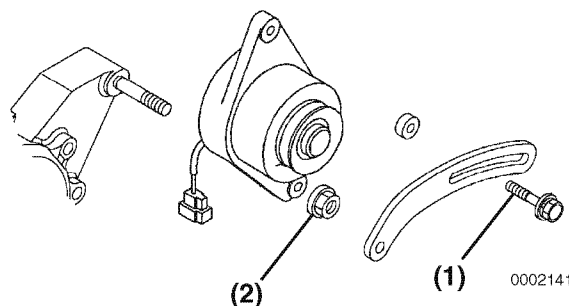

Figure 12-30
1. Position the dynamo on the gear case. Loosely reinstall the nut (**Figure 12-30, (2)**) on the gear case stud and the V-belt adjuster bolt (**Figure 12-30, (1)**).